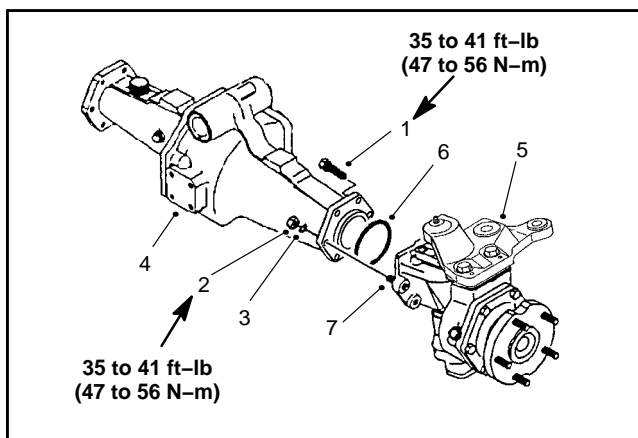

Figure 23
1. Remove the mounting screws, nuts, and lock washers. Remove the bevel gear case/axle case assembly and O-ring from the axle support (Fig. 23).